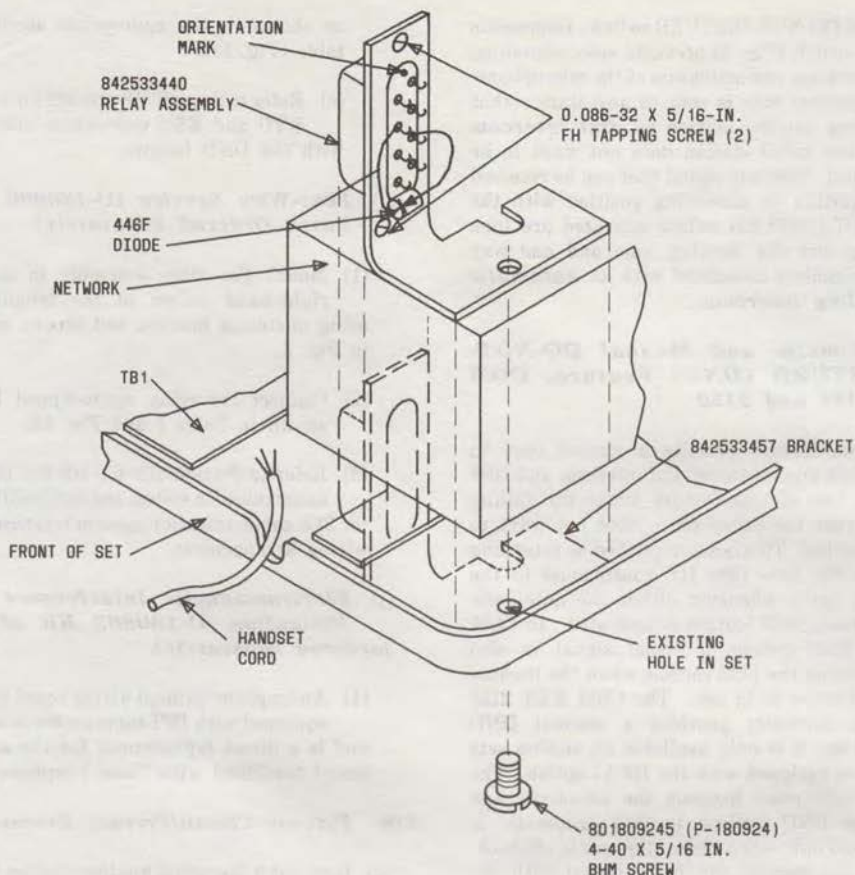

Fig. 5—Mounting Location for 4-Wire Relay Assembly
- (1) Mount the relay assembly in the front right-hand corner of the telephone set using mounting bracket and screws as shown in Fig. 5.